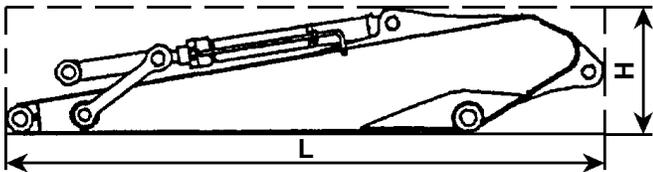

FIGURE 5.9B
2. Arm With Bucket Cylinder - Figure 5.9B